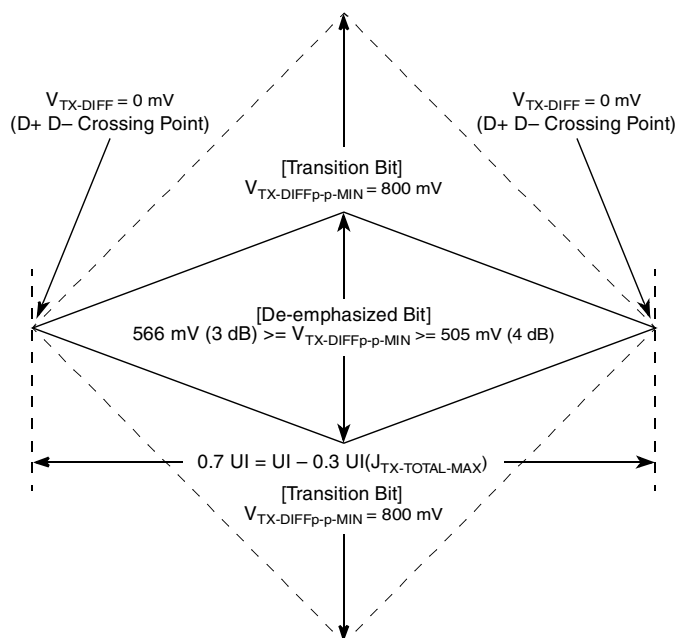
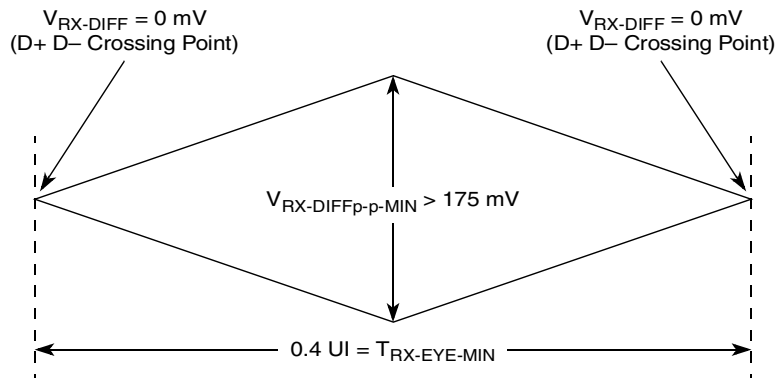
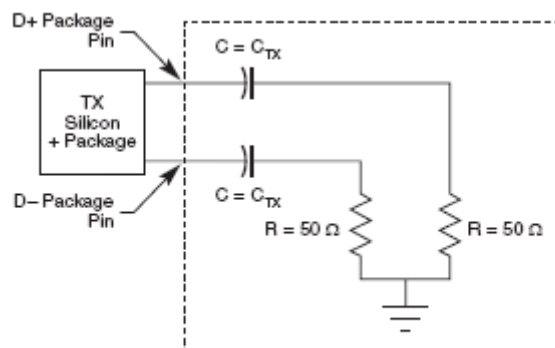

Figure 50. Minimum Transmitter Timing and Voltage Output Compliance Specifications
Figure 51. Minimum Receiver Eye Timing and Voltage Compliance Specification
Figure 52. Compliance Test/Measurement Load
2. Specified at the measurement point into a timing and voltage compliance test load as shown in Figure 52 and measured over any 250 consecutive TX UIs. (Also refer to the transmitter compliance eye diagram shown in Figure 50.)
4. The transmitter input impedance shall result in a differential return loss greater than or equal to 12 dB and a common mode return loss greater than or equal to 6 dB over a frequency range of 50 MHz to 1.25 GHz. This input impedance requirement applies to all valid input levels. The reference impedance for return loss measurements is 50 Ω to ground for both the D+ and D- line (that is, as measured by a vector network analyzer with 50- Ω probes, see Figure 52). Note that the series capacitors, C_{TX} , is optional for the return loss measurement.
5. Measured between 20%–80% at transmitter package pins into a test load as shown in Figure 52 for both $V_{\text{TX-D+}}$ and $V_{\text{TX-D-}}$.
The TX eye diagram in Figure 50 is specified using the passive compliance/test measurement load (see Figure 52) in place of any real PCI Express interconnect + RX component. There are two eye diagrams that must be met for the transmitter. Both diagrams must be aligned in time using the jitter median to locate the center of the eye diagram. The different eye diagrams differ in voltage depending on whether it is a transition bit or a de-emphasized bit. The exact reduced voltage level of the de-emphasized bit is always relative to the transition bit.
2. Specified at the measurement point and measured over any 250 consecutive UIs. The test load in Figure 52 should be used as the RX device when taking measurements (also refer to the receiver compliance eye diagram shown in Figure 51). If the clocks to the RX and TX are not derived from the same reference clock, the TX UI recovered from 3500 consecutive UI must be used as a reference for the eye diagram.
4. The receiver input impedance shall result in a differential return loss greater than or equal to 15 dB with the D+ line biased to 300 mV and the D– line biased to –300 mV and a common mode return loss greater than or equal to 6 dB (no bias required) over a frequency range of 50 MHz to 1.25 GHz. This input impedance requirement applies to all valid input levels. The reference impedance for return loss measurements for is 50 Ω to ground for both the D+ and D– line (that is, as measured by a vector network analyzer with 50- Ω probes, see Figure 52). Note that the series capacitors, C_{TX} , is optional for the return loss measurement.
The RX eye diagram in Figure 51 is specified using the passive compliance/test measurement load (see Figure 52) in place of any real PCI Express RX component. In general, the minimum receiver eye diagram measured with the compliance/test measurement load (see Figure 52) is larger than the minimum receiver eye diagram measured over a range of systems at the input receiver of any real PCI Express component. The degraded eye diagram at the input Receiver is due to traces internal to the package as well as silicon parasitic characteristics which cause the real PCI Express component to vary in impedance from the compliance/test measurement load. The input receiver eye diagram is implementation specific and is not specified. RX component designer should provide additional margin to adequately compensate for the degraded minimum Receiver eye diagram (shown in Figure 51) expected at the input receiver based on an adequate combination of system simulations and the return loss measured looking into the RX package
The reference impedance for return loss measurements is 50. to ground for both the D+ and D- line (that is, as measured by a Vector Network Analyzer with 50. probes—see Figure 52). Note that the series capacitors, C_{PEACCTX}, are optional for the return loss measurement.
The AC timing and voltage parameters must be verified at the measurement point, as specified within 0.2 inches of the package pins, into a test/measurement load shown in Figure 52.